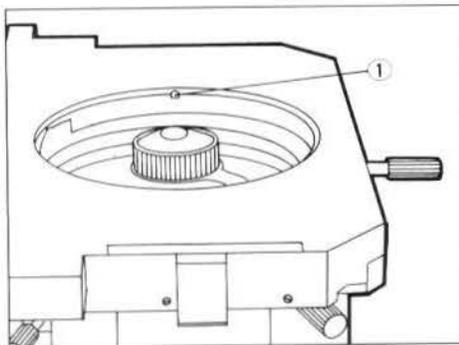

Fig. 7
Align the guide pin ② of the insert plate with the notch ① in the stage, and lower the stage insert plate. (Figs. 7, 8)